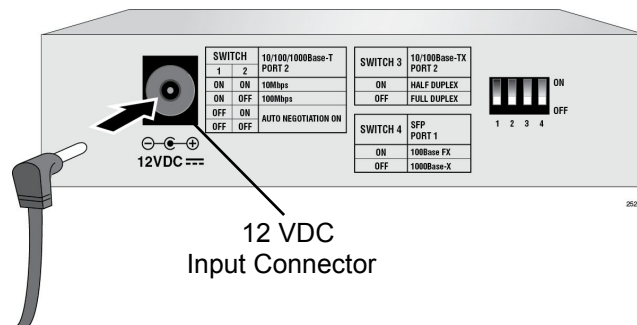

Figure 11. Connecting Power Cord to an AT-GS2002 AC Powered Chassis
1. Locate the 12 VDC input connector on the rear panel of the AT-GS2002/SP Media Converter as shown in Figure 11.